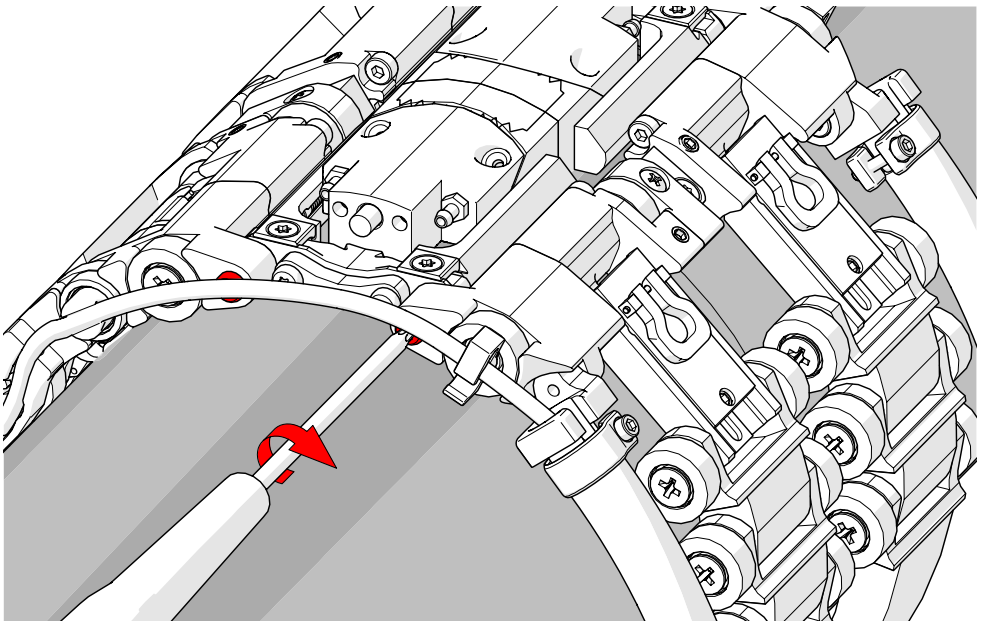

Fig. 41 - Tighten pivot adjustment screws
11. Tighten the pivot adjustment screws on both sides of the scanner (Fig. 41).